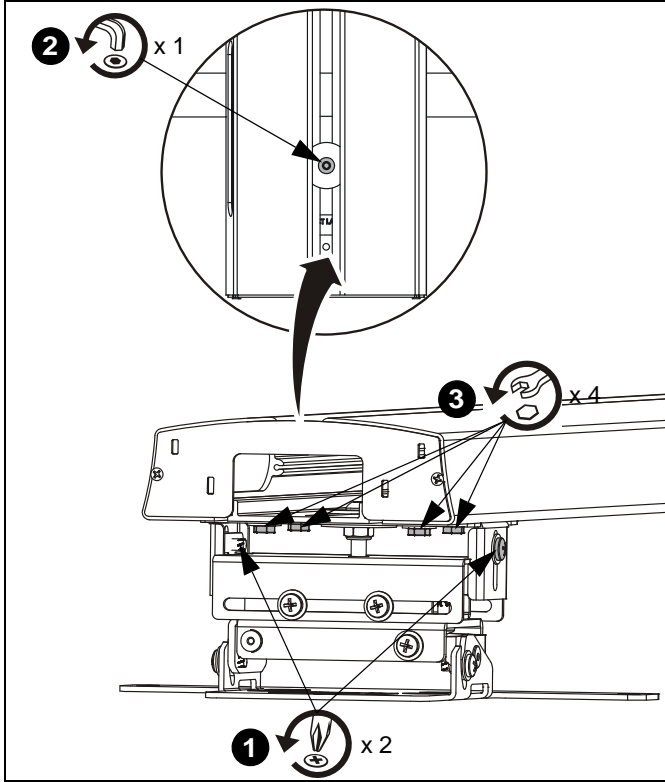

Figure 9
Lower projector mount [attached to short throw projector arm (A)] to lowest position. (See Figure 9)
1. Loosen two screws (one on each side of projector mount). (See Figure 9)
2. Turn the button head cap screw on top of mount counterclockwise to lower the mount. (See Figure 9)
3. Loosen four hex head bolts. (See Figure 9)